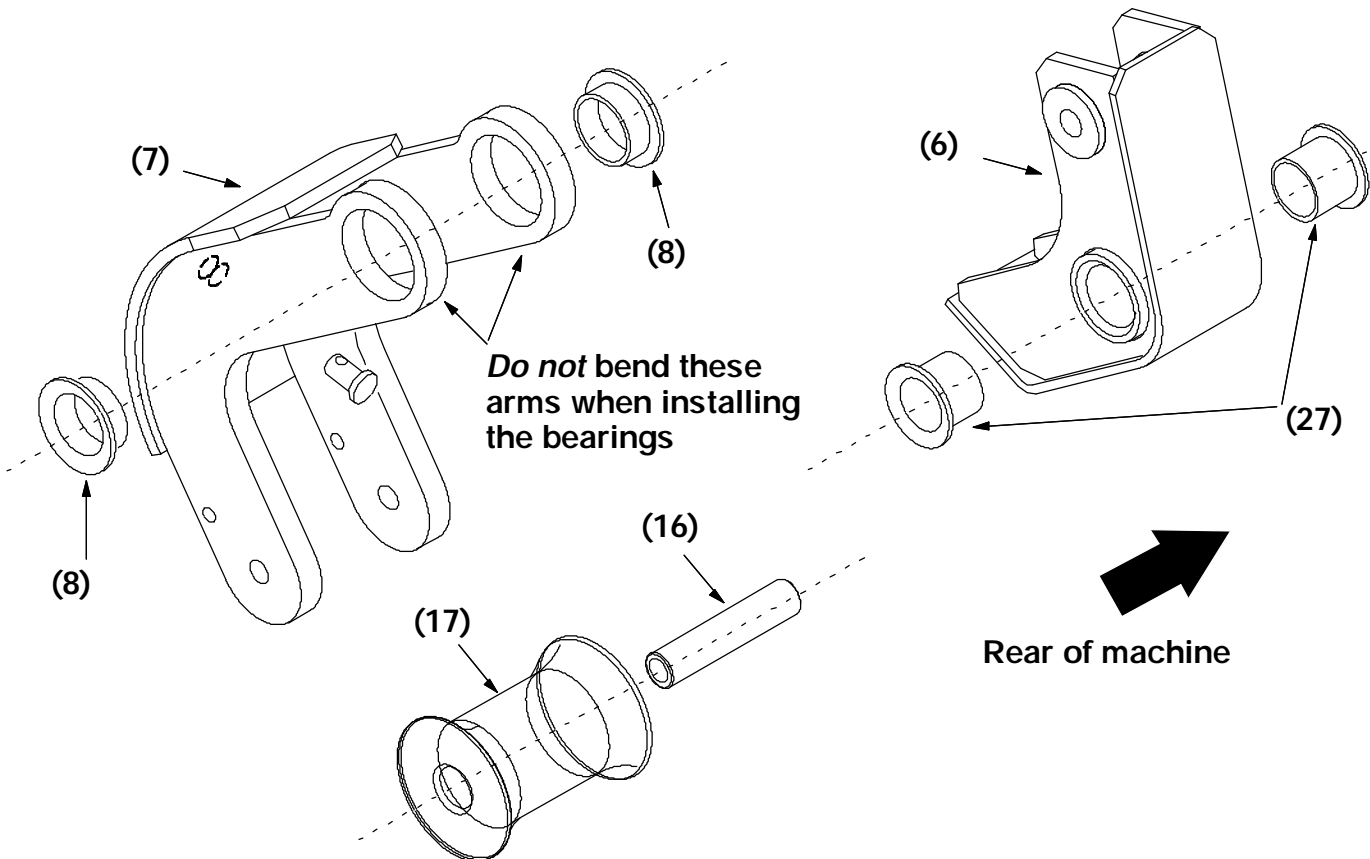

FIG. 4 – Bellcrank Assembly
5. Install the two bearings (8) in the upper bellcrank (6) and the two remaining bearings (27) in the lower bellcrank (7). Use a mallet or hammer to push the bearings in the large hole in each bellcrank. **Be careful not to bend the arms on the bottom bellcrank.** (Refer to Fig. 4)
NOTE: Make sure both bearings are pushed all the way in. (Refer to Fig. 4)
6. Install a new roller (17) and sleeve (16) in the bottom hole of the new lower bellcrank (7). Install the M8 hex screw (18) and nyloc nut (19). Tighten to 18 – 24 Nm (15 – 20 ft lb). Make sure the roller rotates freely after installation. (Refer to Fig. 4)